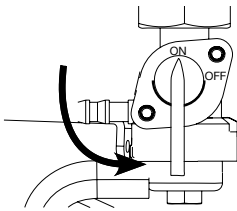

Figure 8 - Fuel Shut Off - ON
(2) Tripped Position
7. Move the fuel shut off valve to the **ON** position (see Figure 8 below).